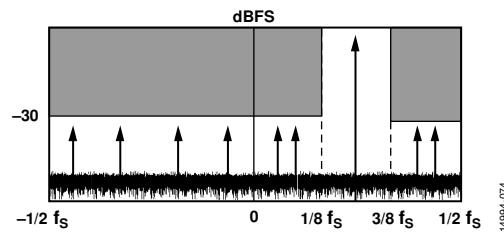
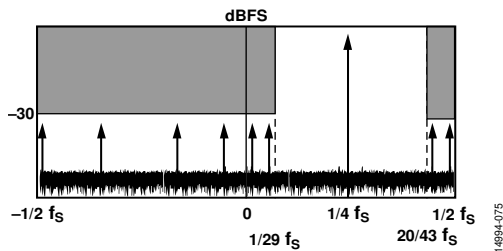

Figure 86. 25% VDR Bandwidth, Complex Mode
Figure 87. 43% VDR Bandwidth, Complex Mode
The complex mode of VDR works with selectable bandwidths of 25% of the sample rate (50% of the Nyquist band) and 43% of the sample rate (86% of the Nyquist band). Figure 86 and Figure 87 show the frequency zones for VDR in the complex mode. When operating VDR in complex mode, place in-phase (I) input signal data in Channel A and place quadrature (Q) signal data in Channel B.
Figure 86 shows the frequency zones for the 25% bandwidth VDR mode with a center frequency of $f_s/4$ (tuning word = 0x04). The frequency zones where the amplitude may not exceed -30 dBFS are the upper and lower portions of the Nyquist band extending into the complex domain.
Table 30 and Table 31 show the tuning words and frequency values for the 43% complex mode. Table 30 shows the relative frequency values, and Table 31 shows the absolute frequency values based on a sample rate of 491.52 MSPS. Figure 87 shows the frequency zones for the 43% BW VDR mode with a center frequency (f_{VDR}) of $f_s/4$ (tuning word = 0x04). The frequency zones where the amplitude may not exceed -30 dBFS are the upper and lower portions of the Nyquist band extending into the complex domain.